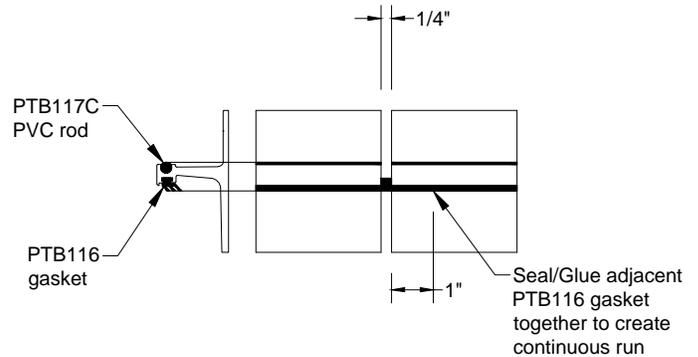

Fig. 50.2
- v. After the lower units are installed and anchored in place, set the E4200 chicken head on each bay in a bead of sealant then attach to head with S457 1/4" x 1" HWH self-drilling screws at spacing per approved shop drawings. Cut length will equal vertical centerline-to-centerline - 1/4". See Fig. 50.3. Note that the PVC rod and gasket need to be installed into the expansion plate and sealed. See Fig. 50.2